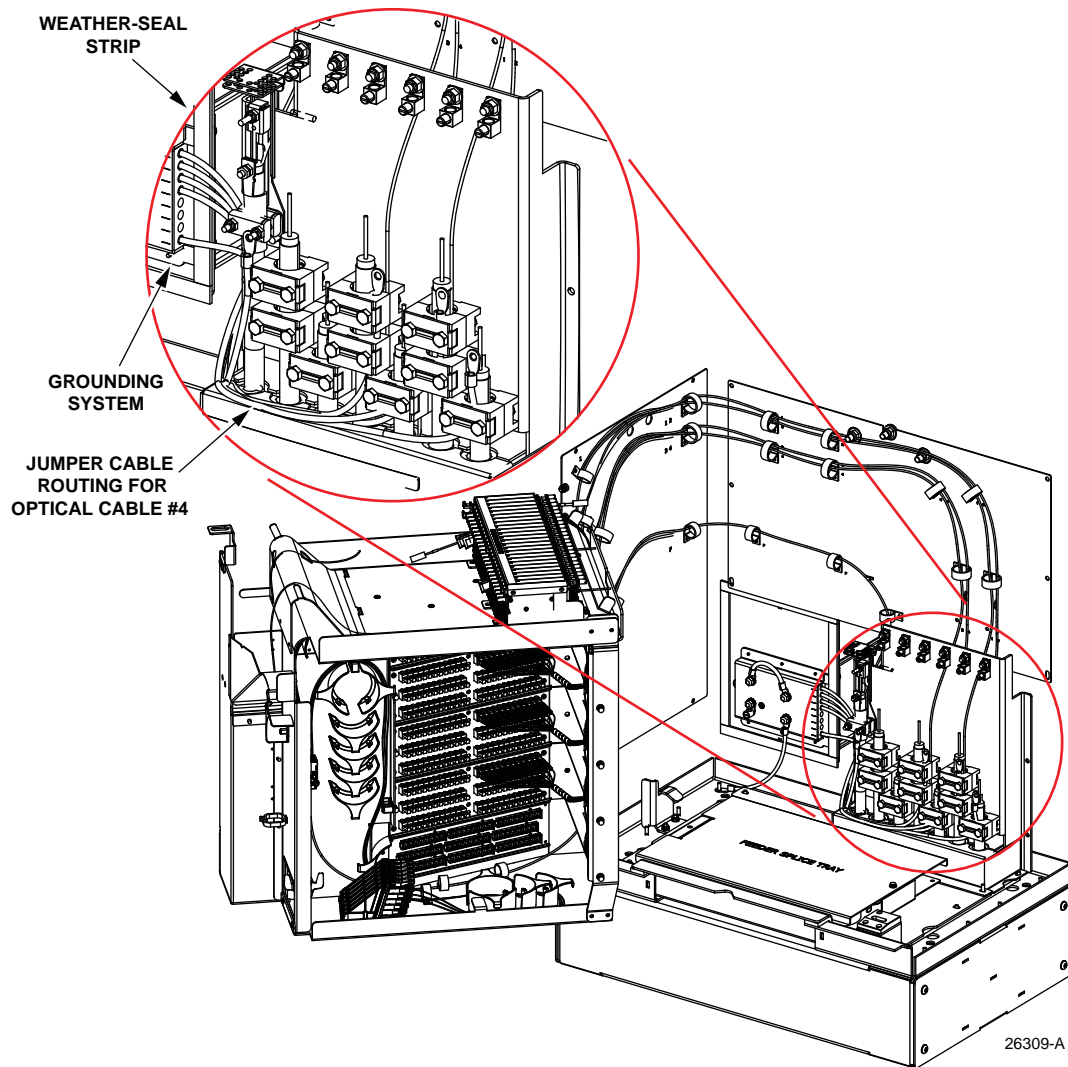

Figure 28. Cable Grounding System - Interior View
13. Locate the weather-seal strip attached to the right side of the cabinet grounding system as shown in Figure 28.